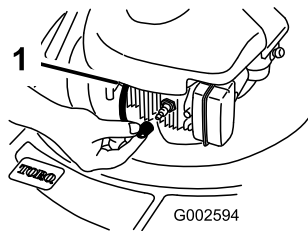

Figure 29
2. Disconnect the spark plug wire from the spark plug and hook it onto the retaining post (Figure 29) before performing any maintenance procedure.